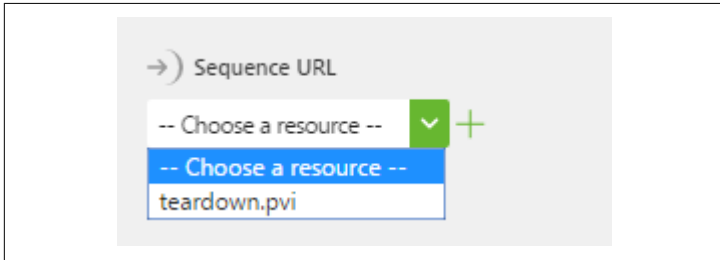

Figure 3-7. Selecting the *teardown.pvi* file
- Once you've added the *blue_pump.pvz* file, the Sequence URL drop-down is automatically populated with the *teardown.pvi* file (see Figure 3-7). Select it to add the disassembly animation sequence to the model.